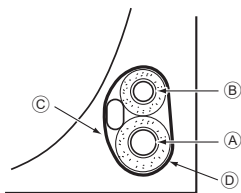

Fig. 4-3
4.3.1. Storing in the piping space of the unit (Fig. 4-3)